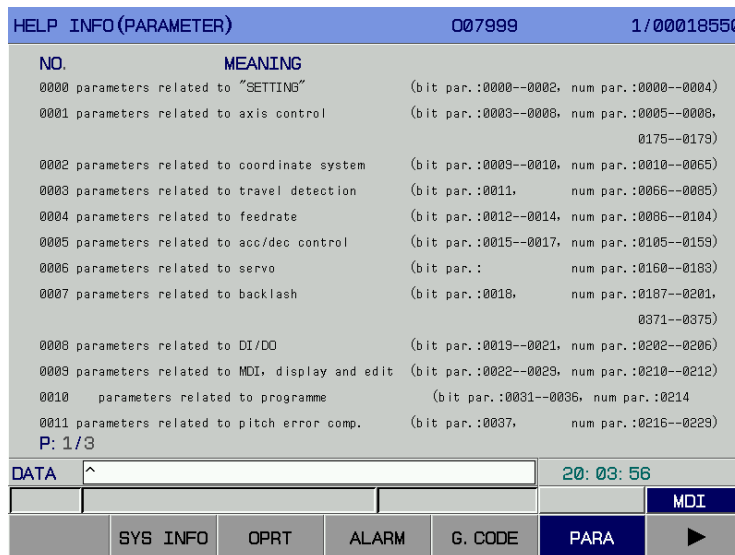

Fig. 3-9-6
5. For the parameter table interface, press the [Parameter table] soft key on the <Help> interface to enter the help information (parameter/diagnosis list) interface, as shown in Fig. 3-9-6.